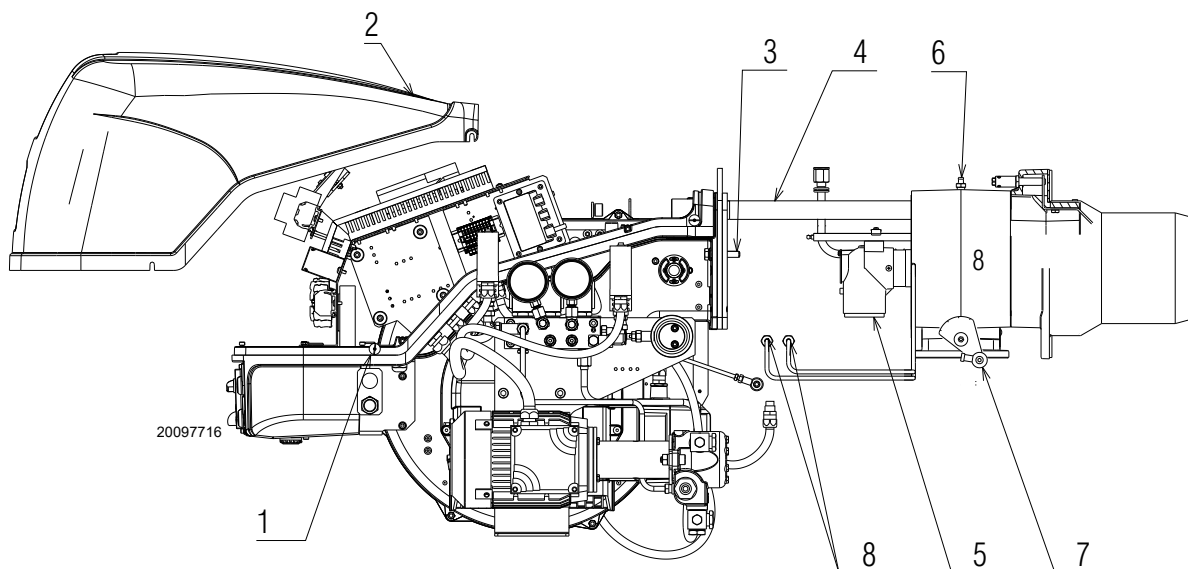

Fig. 49
- loosen screws 1)(Fig. 49) and withdraw the cover 2);
- refit screws 3)(Fig. 49) and pull the leads gently out until they are slightly stretched;